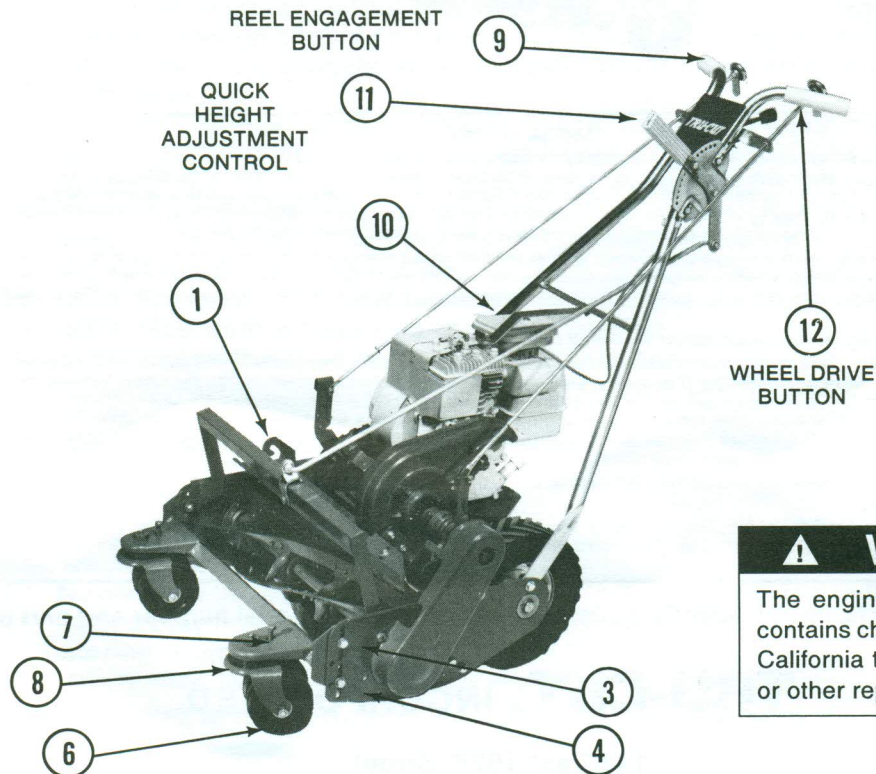

FIGURE 1
- A. **REEL ENGAGEMENT** Depress the reel engagement button (refer to Figure 1) on the handle to engage the reel clutch. Note that the mower is equipped with a quick disengagement lever (Item 9 Figure 1). In the event an uncuttable object is encountered release the reel clutch by pulling the lever toward you. It is recommended to clear the lawn of wood, rocks, and other debris prior to mowing.
- B. **DRIVE WHEEL ENGAGEMENT** Depress the wheel drive button (Figure 1) with your thumb to engage the drive clutch. The drive clutch is designed to allow clutch slippage in order to vary clip rate or to maneuver in tight spots. The desired slippage is accomplished by the amount of pressure applied to the wheel drive button. For long straight areas, the clutch can be fully engaged by pushing until locked in place. A quick disengagement (Item 12 Figure 1) handle is provided to allow immediate disengagement of the drive wheels.
- D. **ADJUST HANDLE** For different heights by moving to second set of holes in (Item 10 Figure 1).
- E. **ATTACHING THE BASKET** Attach to two hooks located on the two frame side plates (Item 1 Figure 1).
- F. **HEIGHT OF CUT ADJUSTMENT OF SWIVEL CASTER MODEL** To obtain desired cut height of grass, select proper position in height control handle (Item 11 Figure 1). There is an additional range (Items 3 and 4 Figure 1) by selecting top hole and second from bottom you achieve high range; the lower set of holes result in low-range cut.
- G. **TO LOCK SWIVEL CASTER** To lock caster (Item 6 Figure 1) for hillside operations, tighten cap screw (Item 7 Figure 1) on caster holder (Item 8 Figure 1) with caster wheels in straight position until screw engages hold in caster fork.